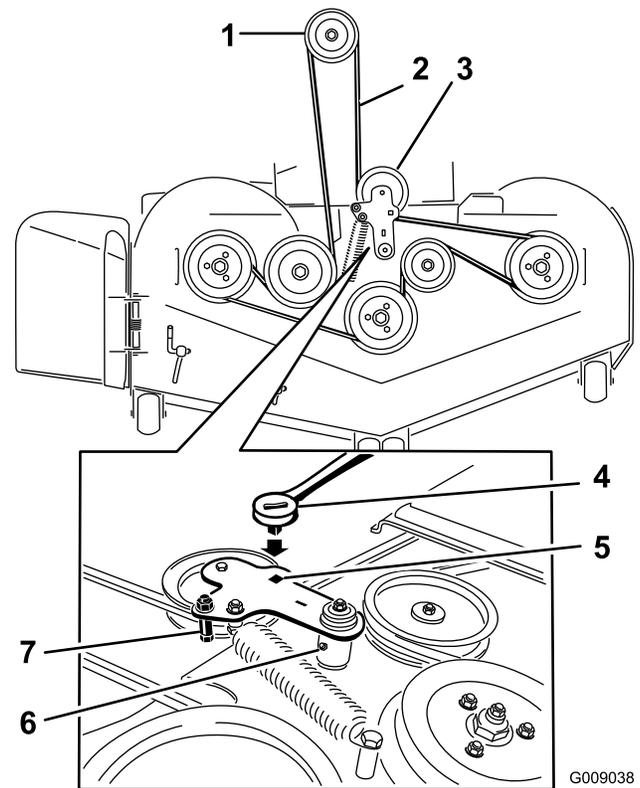

Figure 98
6. Lift up the floor pan and insert a ratchet into the square hole in the deck idler (Figure 98).
7. Rotate the deck idler clockwise and remove the mower belt (Figure 98).